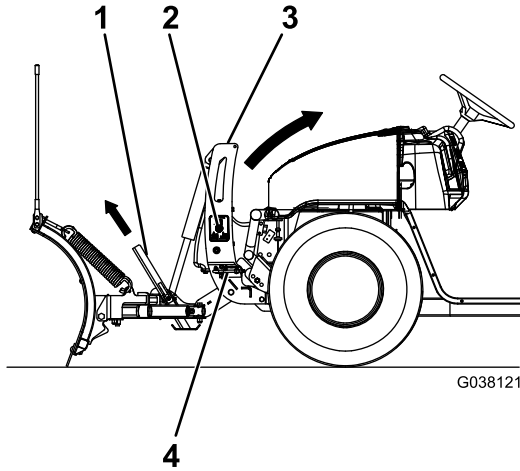

Figure 20
5. Push the SmartHitch2 switch on the side of the coupler tower upward and raise the tower until the coupler spring pins snap in (Figure 20).
7. Pull the kickstand spring-pin outward and raise the kickstand, then release the spring pin to secure it (Figure 20).